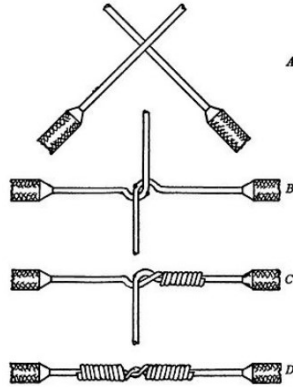

Figure 2-Western Union splice has diameter less than the insulated wires and no sharp points
5. All of the splices will be Western Union splices, as diagrammed in Figure 2. Twist wires carefully so that no sharp edges project from the ends of the wires.